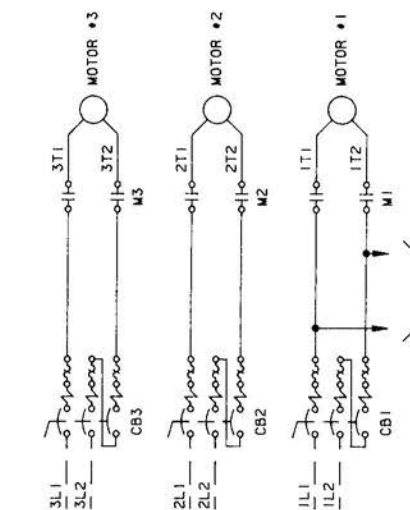

FIG. 2
- PSR POWER SWITCHING RELAY (WITH FIG. 2)